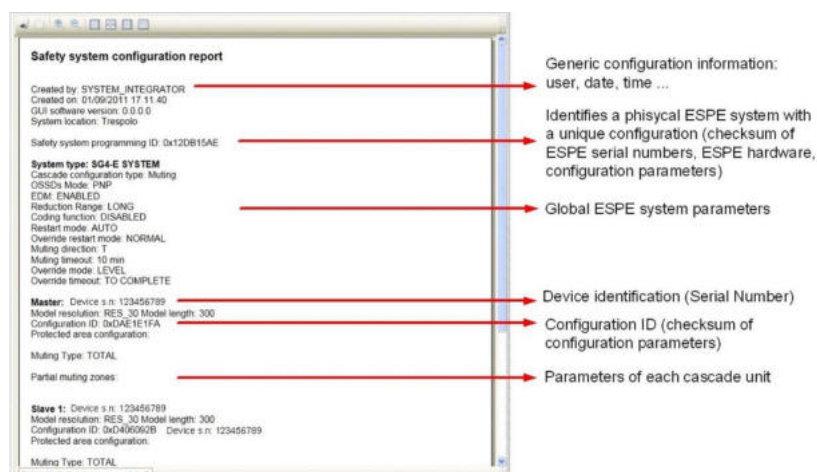

Figure 3 - Safety report
**Report check:** ESPE sends back to GUI the received configuration, GUI produces a printable SAFETY REPORT with all safety related information about configuration in progress (see Figure 3).